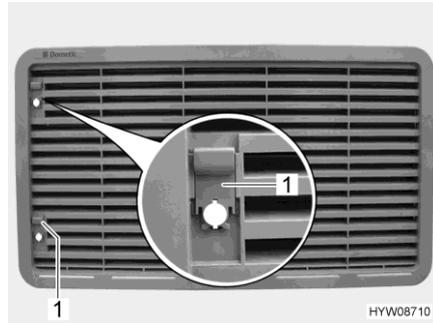

Fig. 132 Refrigerator ventilation grill
- Push sliding trap (Fig. 132,1) upward.